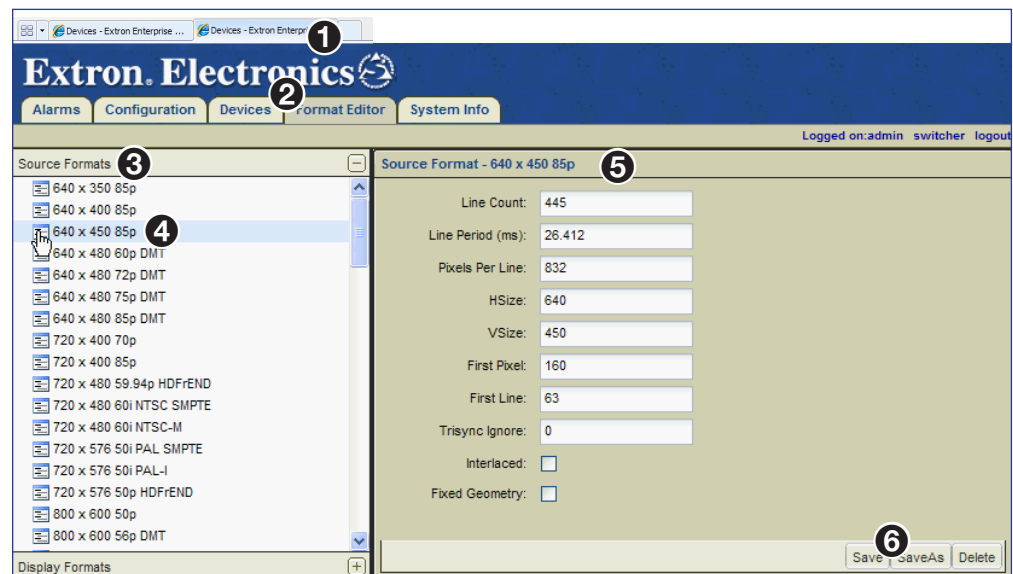

Figure 145. Source Resolution Properties
To delete a custom resolution format, select a resolution and click **Delete** located at the lower right corner of the **Format Editor** page (see figure 145 on page 150).
1. Click the **right tab**, (see figure 145, **①**).
2. Click the **Format Editor** tab (**②**).